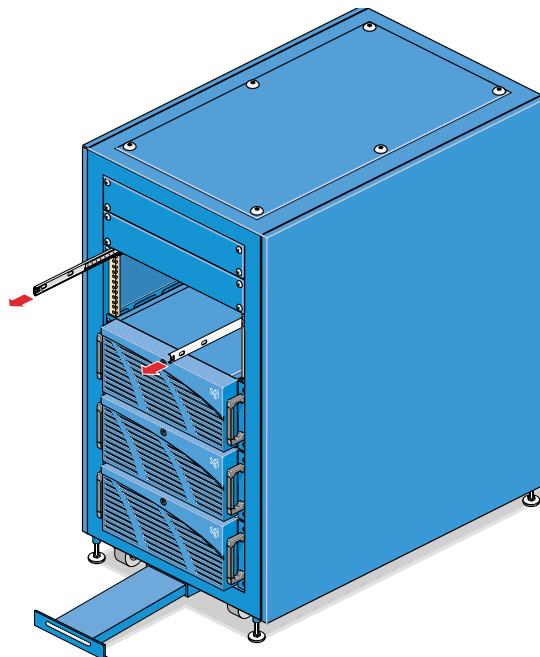

Figure 4-16 Extending Slide Rails
1. In the rack, push in the levers on each slide rail for the node and pull out each slide rail until it is fully extended, as shown in Figure 4-16. Make sure each slide rail is fully extended and locked into place.